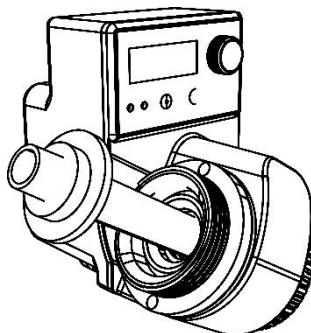
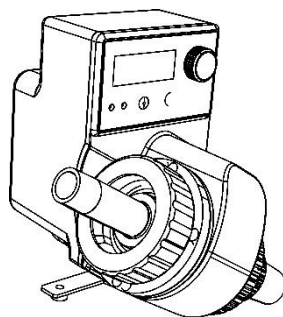

Fig. 14
Fig. 15
- Mount the seal ring (Fig. 14 and Fig. 15)